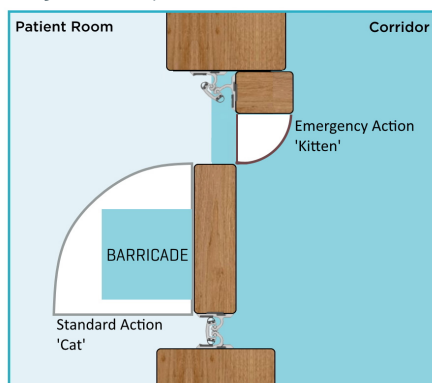

Figure 13.3
- Dual Swinging Door[s]** – this is where the larger leaf [or potentially both leaves] are installed with a double swinging hinge, refer figures 13.3 and 13.4. During normal use the larger leaf would swing inward only, with the smaller leaf (when locked in position) acting as a stop to prevent the larger leaf swinging outward. If a barricade is attempted, the smaller leaf can be unlocked allowing both doors to swing outward (refer figure 13.4) and away from the barricade, meaning that the full width of the doorway is available for staff access.